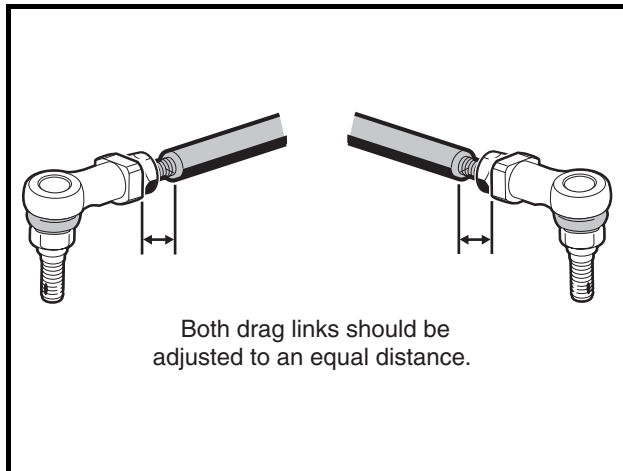

Figure 7-25 Adjust Both Drag Links
2. Rotate both of the drag links equally. To increase the toe-in, rotate both drag links counterclockwise. To decrease the toe-in, rotate both drag links clockwise. Maintain an equal distance from the ball joint to the end of the threads on each drag link (**Figure 7-25, Page 7-13**).